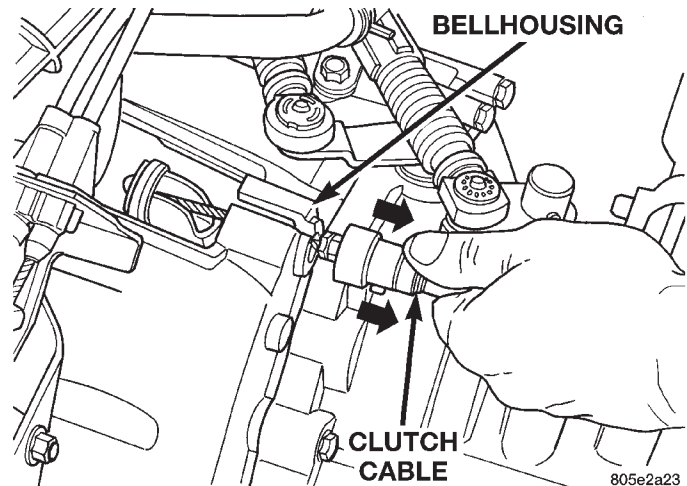

Fig. 9 Cable at Transaxle
(2) If the adjust mechanism functions properly, guide the cable through the slot in the transaxle housing. Connect cable to release lever, seating the cupped washer securely on lever tangs.
(3) Pull back on clutch cable housing and insert into transaxle housing (Fig. 9).
(4) Reinstall cable inspection cover and air cleaner assembly. Check clutch pedal position switch operation.